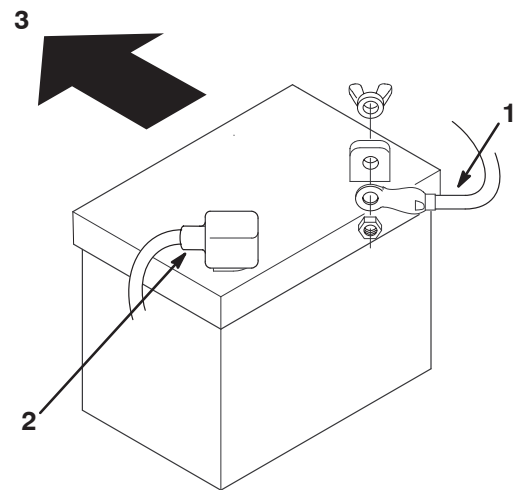

Figure 24
7. Disconnect the negative (black) ground cable from the battery post (Fig. 24).
9. Disconnect the positive (red) cable from the battery post (Fig. 24).
1. Place the battery into the chassis with the battery posts toward the rear of the tractor (Fig. 24).
3. Using the bolt and wing nut, connect the positive (red) cable to the positive (+) battery post (Fig. 24). Slide the rubber cover over the battery post.
4. Using the bolt and wing nut, connect the negative (black) cable to the negative (–) battery post (Fig. 24). Slide the rubber cover over the battery post.